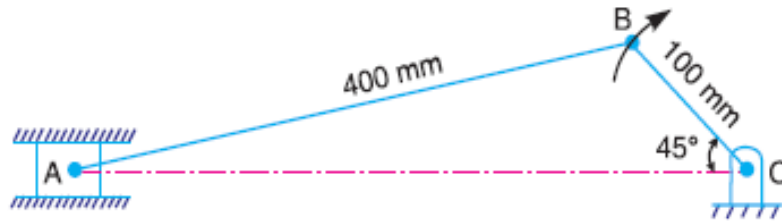

Fig. 2
- (b) Locate all the instantaneous centres of the slider crank mechanism as shown in Fig 2. The lengths of crank OB and connecting rod AB are 100 mm and 400 mm respectively. If the crank rotates clockwise with an angular velocity of 10 rad/s, find: 1. Velocity of the slider A, and 2. Angular velocity of the connecting rod AB. 07